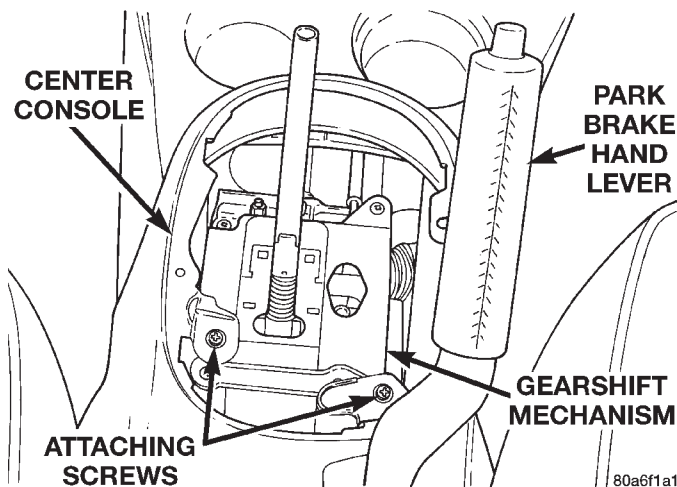
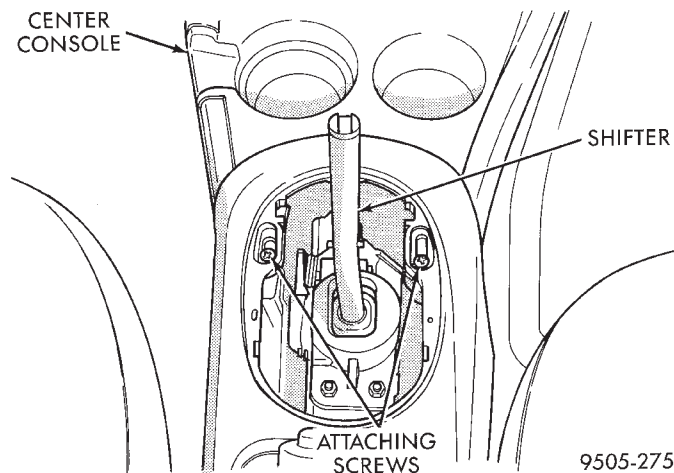

Fig. 124 Center Console Front Attaching Screws (Automatic)
Fig. 125 Center Console Front Attaching Screws (Manual)
(4) Remove the 2 screws attaching the front of the center console to the gear selector or shifter (Fig. 124) or (Fig. 125).
(7) Check the rear wheels of the vehicle with the park brake lever fully released, they should rotate freely without dragging.
(8) After the park brake cable tension has been properly adjusted, check for free play in park brake lever. Park brake hand lever should feel firm at all clicks, with a maximum of 22 clicks of lever travel possible.
(9) Install the center console back in the vehicle.
(10) Install the 2 screws attaching the front of the center console to the forward console (Fig. 124) (Fig. 125).